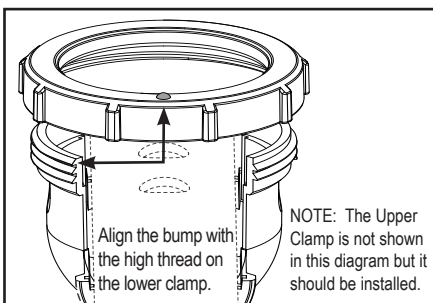

Figure 13. Locking Ring Alignment
13. Position the locking ring in proper alignment, making sure the bump aligns with the top thread (see Figure 13).